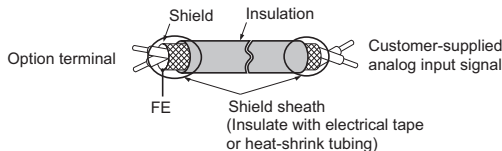

Figure 26 Prepare Ends of Shielded Cable
- Prepare and connect the wire ends as shown in Figure 26 and Figure 27. Refer to Wire Gauges and Tightening Torques on page 37 to confirm that the proper tightening torque is applied to each terminal. Take particular precaution to ensure that each wire is properly connected and wire insulation is not accidentally pinched into electrical terminals.